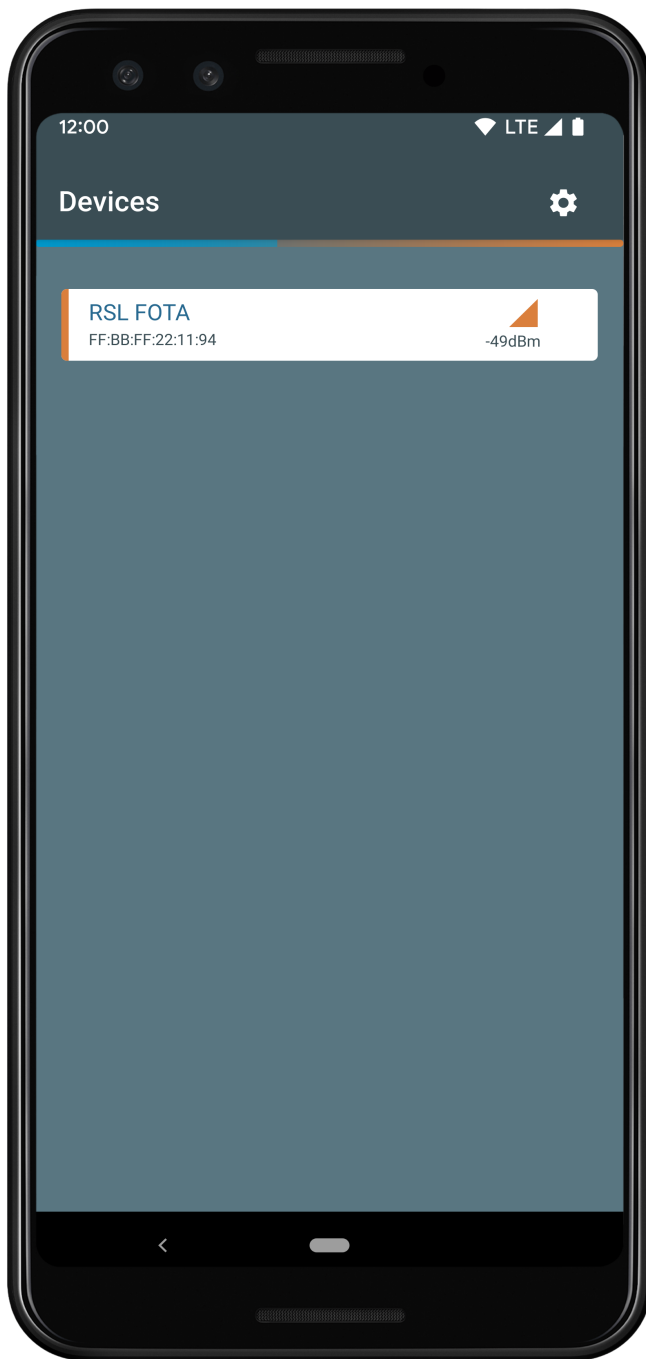

Figure 24. RSL FOTA Mobile Application Showing Bluetooth Low Energy Devices
2. Launch the application and select the FOTA enabled firmware device from the list of devices, as shown below in the figure "RSL FOTA Mobile Application Showing Bluetooth Low Energy Devices" (Figure 24).